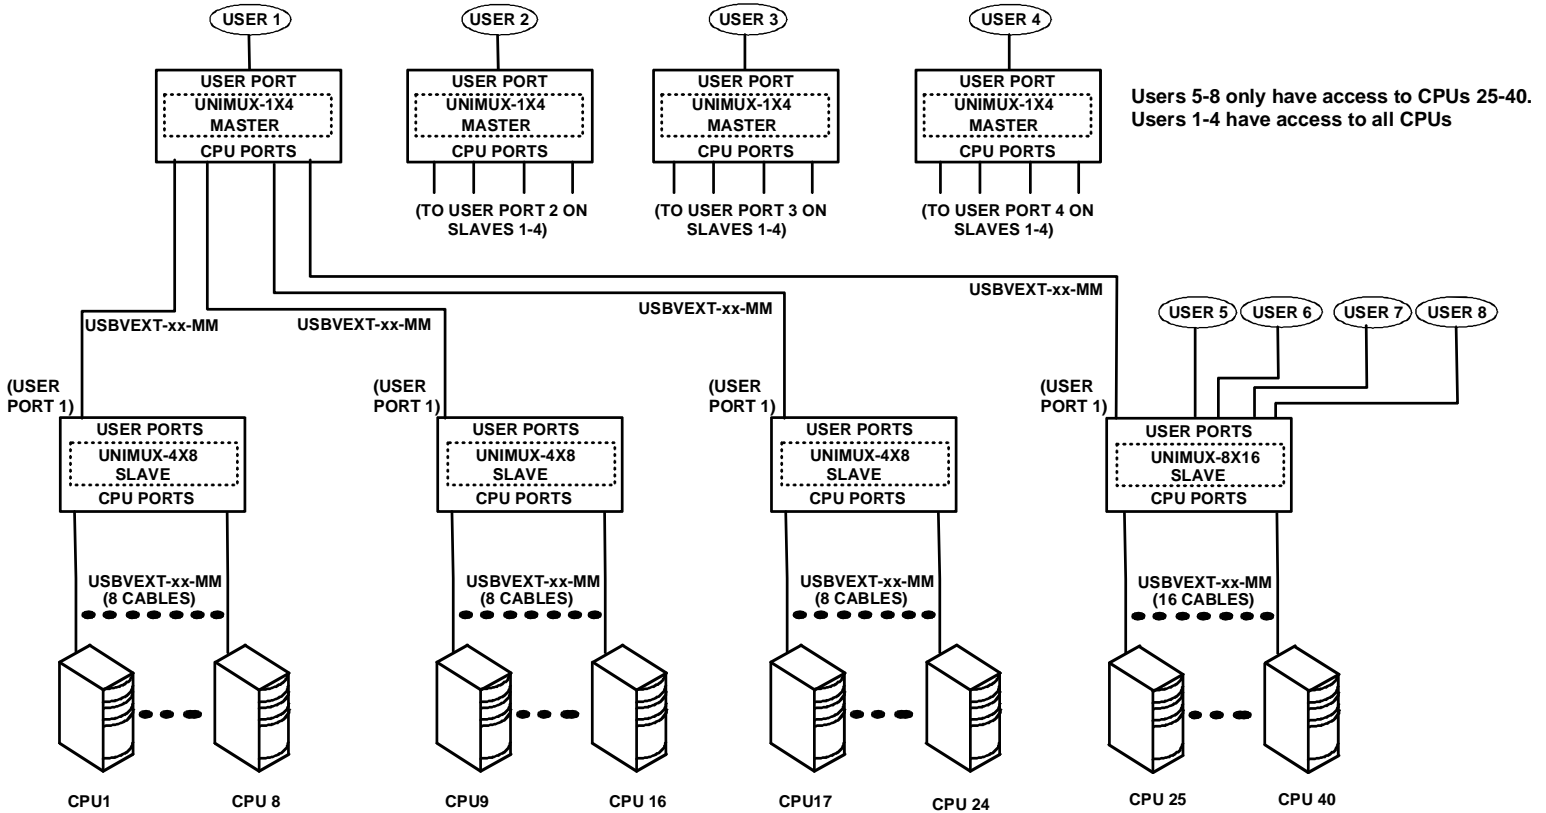

Figure 22- Cascaded configuration with multi-user slaves
**FYI:** Any USER and MONITOR ports on a multi-user switch connected as a slave that do not get connected to the master can be connected to by users (for example users 5-8 in Fig. 22). Users connected to a slave downstream from the master will control only the CPUs directly connected to that slave switch (i.e. users 5 and 6 in fig. 22 above can only control CPUs 25-40).